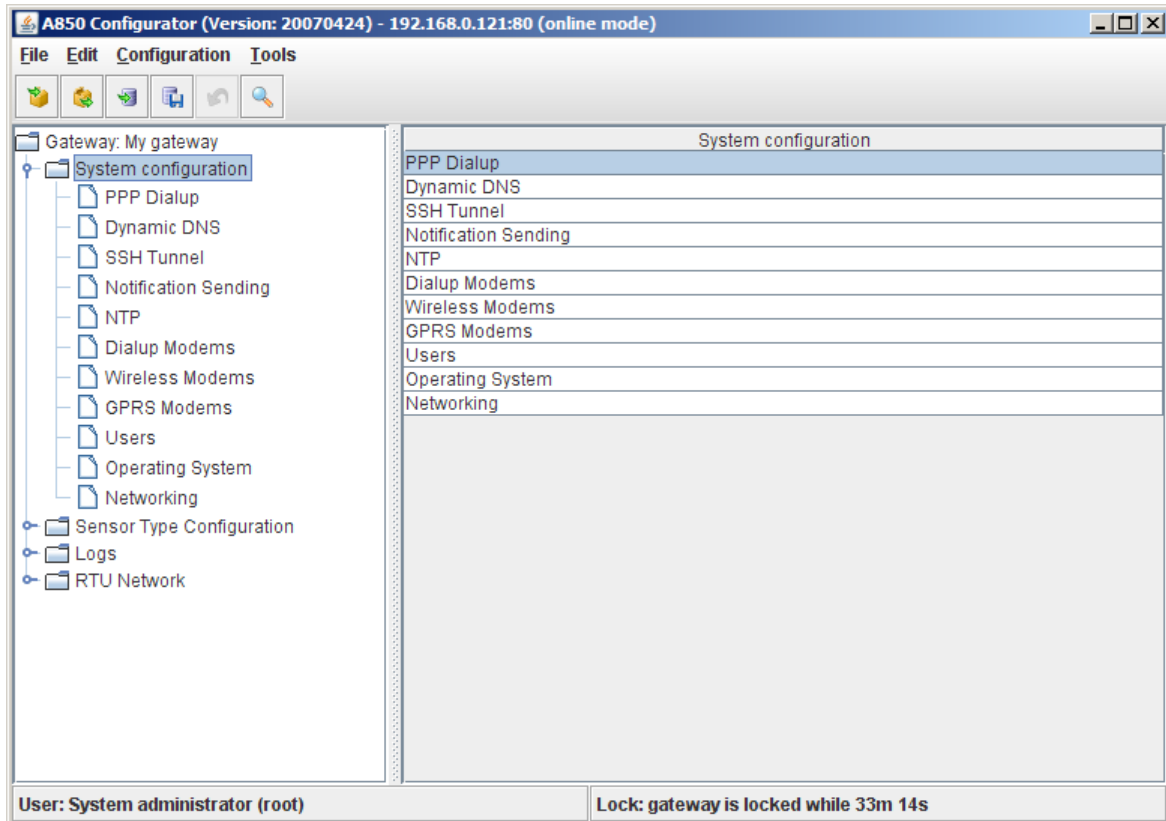

Figure 79. System Configuration List Window
- Open the "System configuration" in the "Tree view" by double clicking. Now, the main window of the A850 Configurator as displayed below in Fig. 79 will appear.